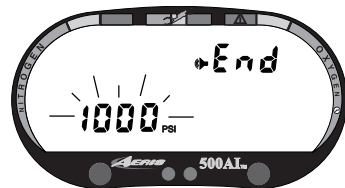

Fig. 23 - Set End Pressure
- the Alarm icon and 'End' appear with the Pressure value flashing (Fig. 23)